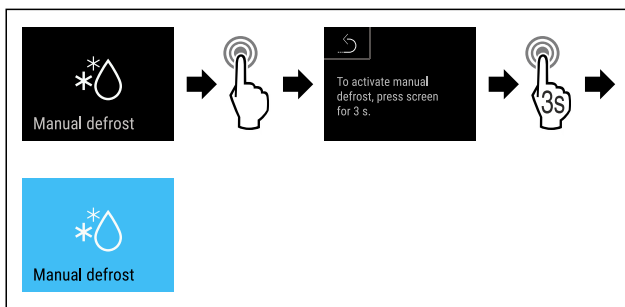

Fig. 132
- ▶ Complete steps (see Fig. 132) .